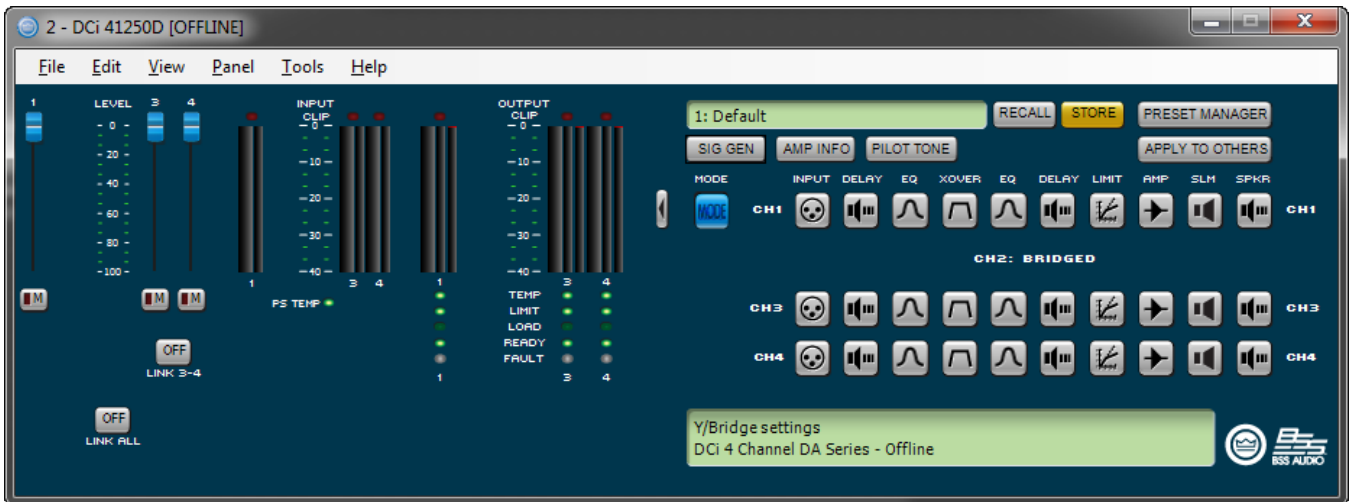

Figure 20: DSP chain configured for bridge mono operation
**NOTE:** When an output is configured for bridge mono operation, only one channel in the channel pair DSP will be available (See **Figure 20**).